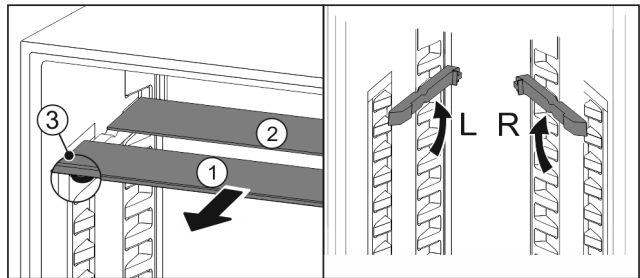

Fig. 23
- ▶ Pull the glass panels out Fig. 23 (1) from the front, one at a time.
- ▷ The glass panel Fig. 23 (1) with the trim strip is at the front.
- ▷ The stops Fig. 23 (3) point downward.